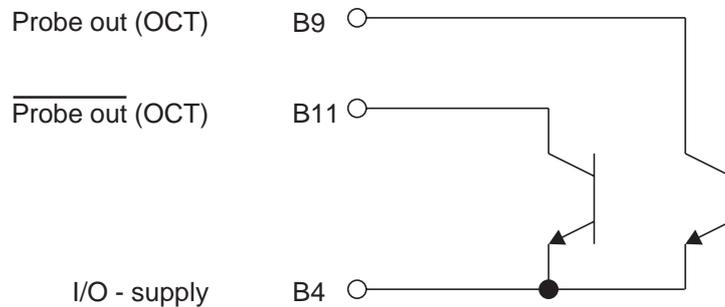

Figure 14
- Inverted probe out (OCT) (see figure 14).